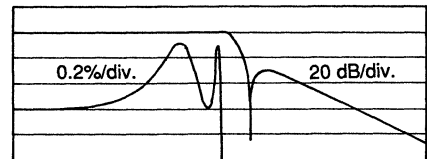
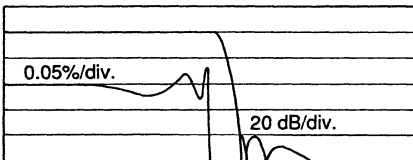
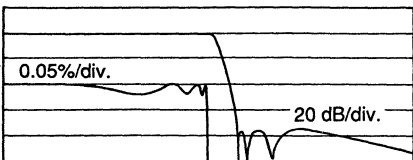

Figure 2. 4-Pole CAUER Response
Figure 4. 4- and 5-Pole Pair Response
Figure 5. 7-Pole CAUER Response
- The frequency responses of the 4-pole and 5-pole Gauer filters are shown in Figures 2 and 3 respectively. Figure 4 details the response of a cascaded pair of frequency matched 4- and 5-pole filters. The response for a cascaded pair is similar to a 7-pole Gauer, as shown in Figure 5.